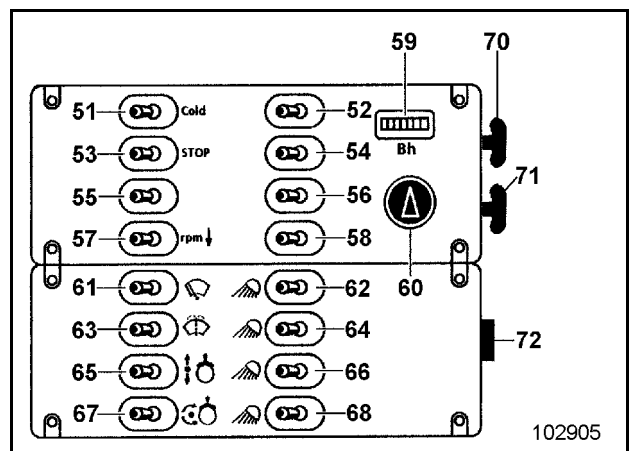

Fig. 7
- Turn rotary switch (60, Fig. 7) to step 3 .